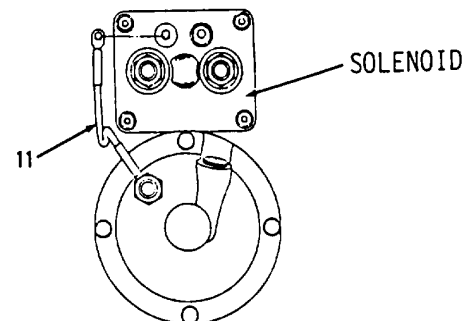

Figure 4-56.
9. Connect wire assembly (11, Figure 4-56) to solenoid ground.